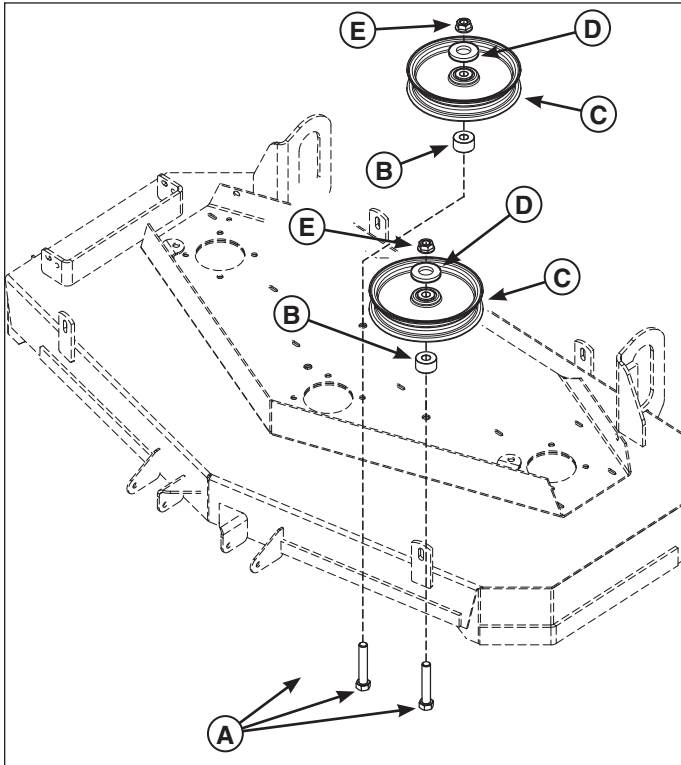

Figure 2. Removing the Stationary Idler Pulleys
2. Remove the 1/2 X 3" bolts (A, Figure 2), .52 X 1.25 X .70 spacers, stationary idler pulleys (C), pulley shields (D) and 1/2-13 nylock nuts from the mower deck. Discard the nylock flange nuts, bolts and the spacers.